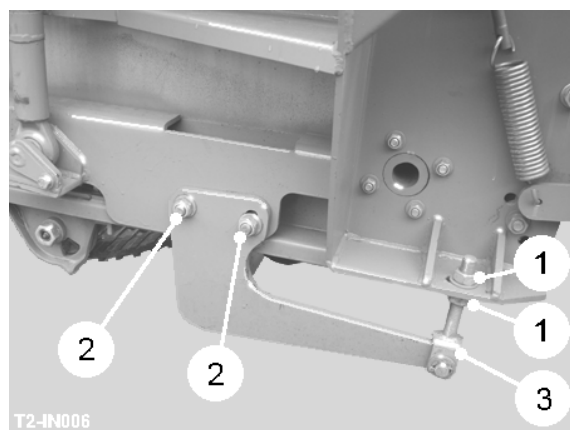

Fig 6
To adjust the angle of the shares loosen the locknuts (item 1, fig 6) on both sides of the machine, slacken mounting bolts (item 2, fig 6) and re-position adjuster (item 3, fig 6). Ensure both sides are adjusted evenly by measuring from the tip of the outer shares up to the disc support bridge above. The points of the share should be kept as high as practicable whilst still maintaining adequate digging depth. Lowering the points will assist penetration but may increase risk of crop damage. If the soil has been adequately cultivated this should not be necessary. If the pitch is too steep (points lowered) it can greatly increase the loading or 'bulldozing' effect on the share frame, especially when in hard or tough conditions. Regularly check for soil build-up on the share frame (especially in wet conditions) as a pad of soil at this point will create a considerable braking effect on the digger web. Ensure that the share frame is not in contact with the web bars at this point.